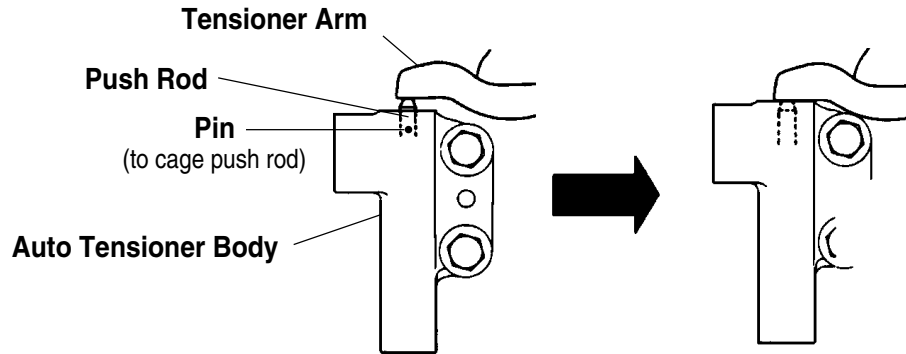

Figure 1
1. Follow the vehicle manufacturer's specifications to assemble and position the timing belt tensioner pulley. See Figure 1.